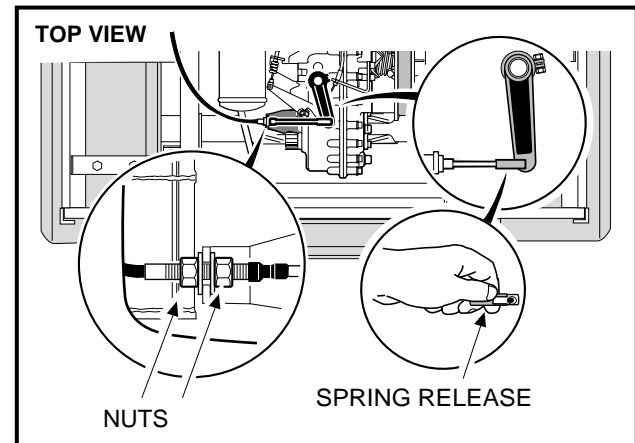

Figure 16-18 Shifter Cable
- 3.8. Loosen nuts securing shifter cable to shifter cable mounting bracket. Then disconnect the shifter cable rod end from the shifter arm on the unitized transaxle and remove the cable from the cable mounting bracket (**Figure 16-18, Page 16-10**).